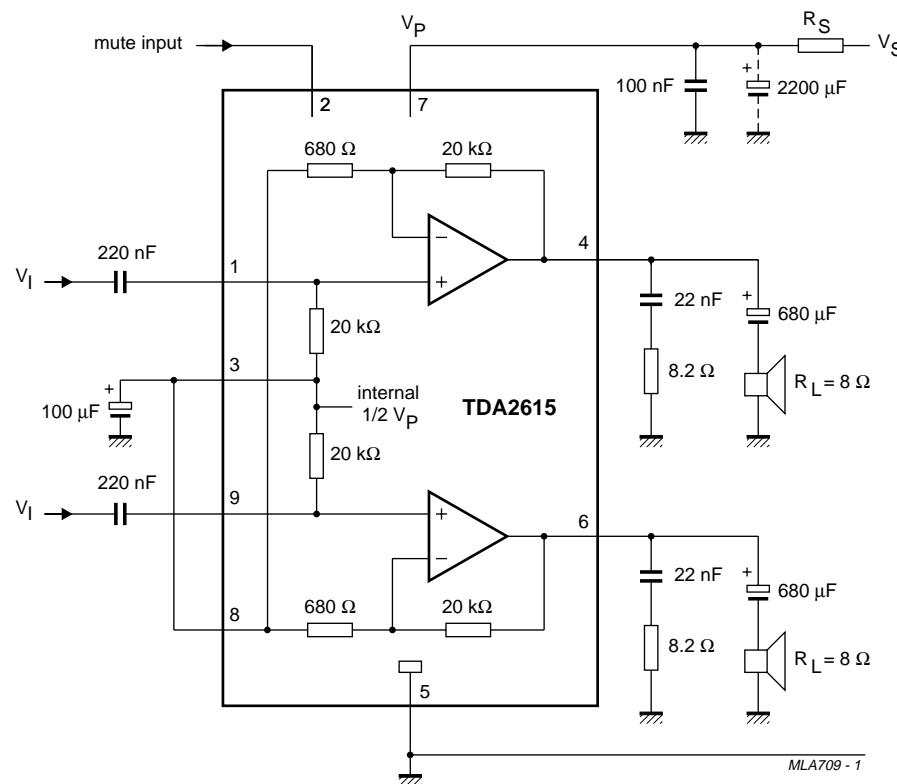

Fig.5 Test and application circuit with asymmetrical power supply.
- $V_P = 24$ V; $R_L = 8 \Omega$; $T_{amb} = 25$ °C; $f_i = 1$ kHz; asymmetrical power supply $I_{MUTE} < 30 \mu$ A (see Fig.5).